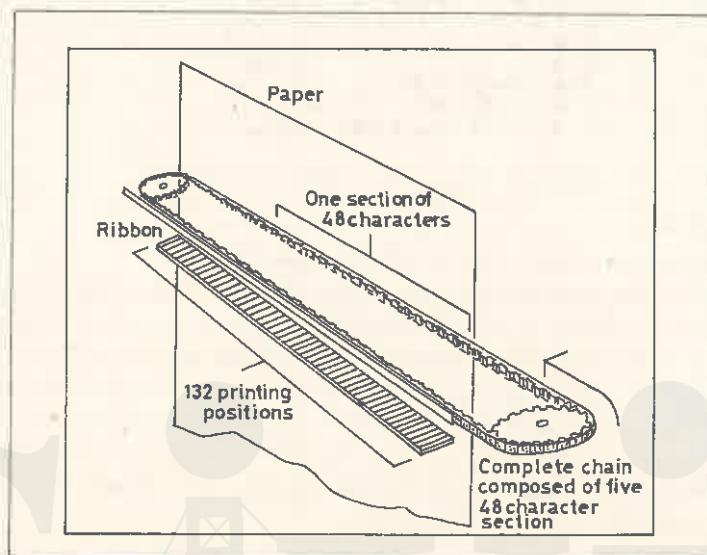

Fig. 36.21. Chain printer.
- In the case of *chain printer* (Fig. 36.21), the type characters literally form a chain, like links of a bicycle chain.